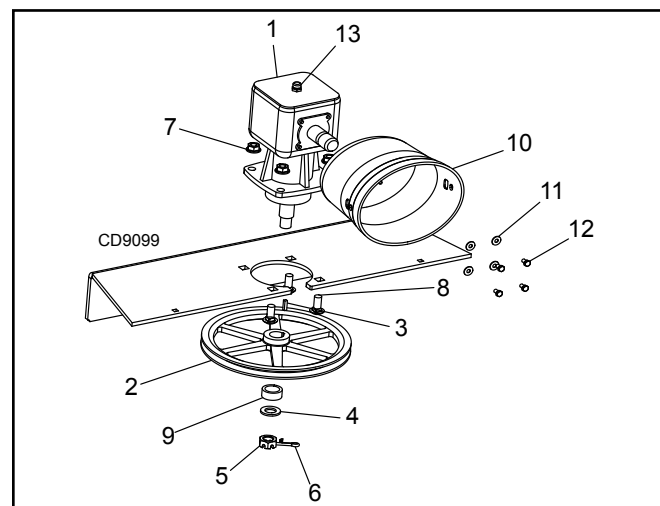

Figure 18. Gearbox Stand Assembly
Refer to Figure 18.
2. Remove vent plug (27), Figure 18, and siphon gear lube from housing through this opening.
3. If the leak occurred at either end of horizontal shaft, remove oil cap (11) and/or oil seal (1). Replace with new one (see Seal Replacement, page 29).